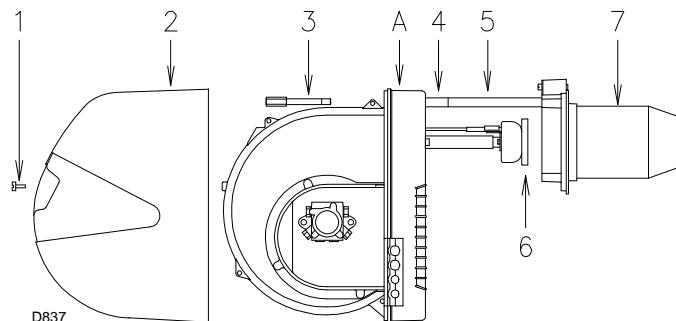

Fig. 30
- Remove screw 1)(Fig. 30) and withdraw the casing 2).